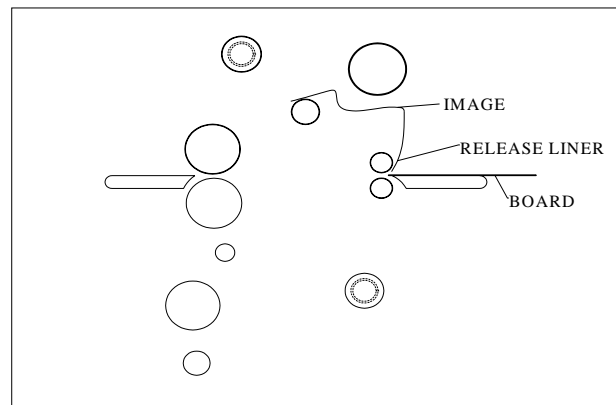

Figure 34
**Note:** This application can also be performed from the rear operating position. Reference Fig. 34 for Illustration.